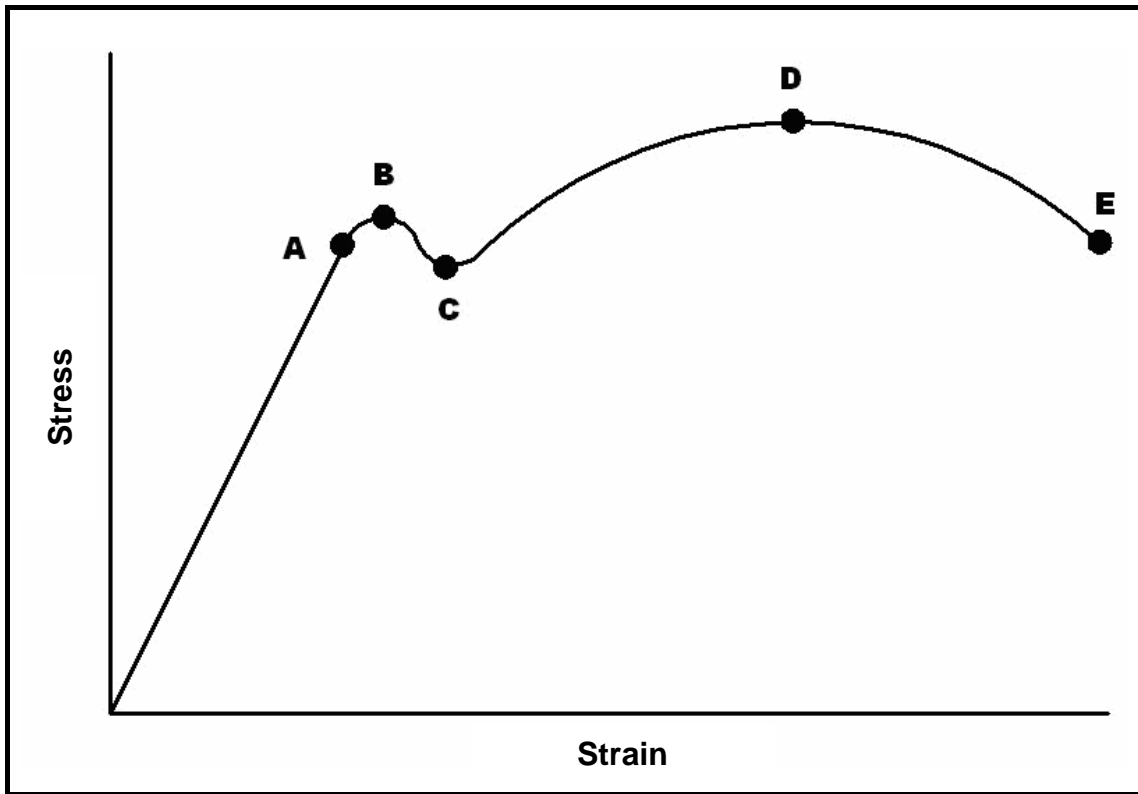

FIGURE 1.6
1.14 What does point D in the stress/strain diagram, shown in FIGURE 1.6 below, denote?